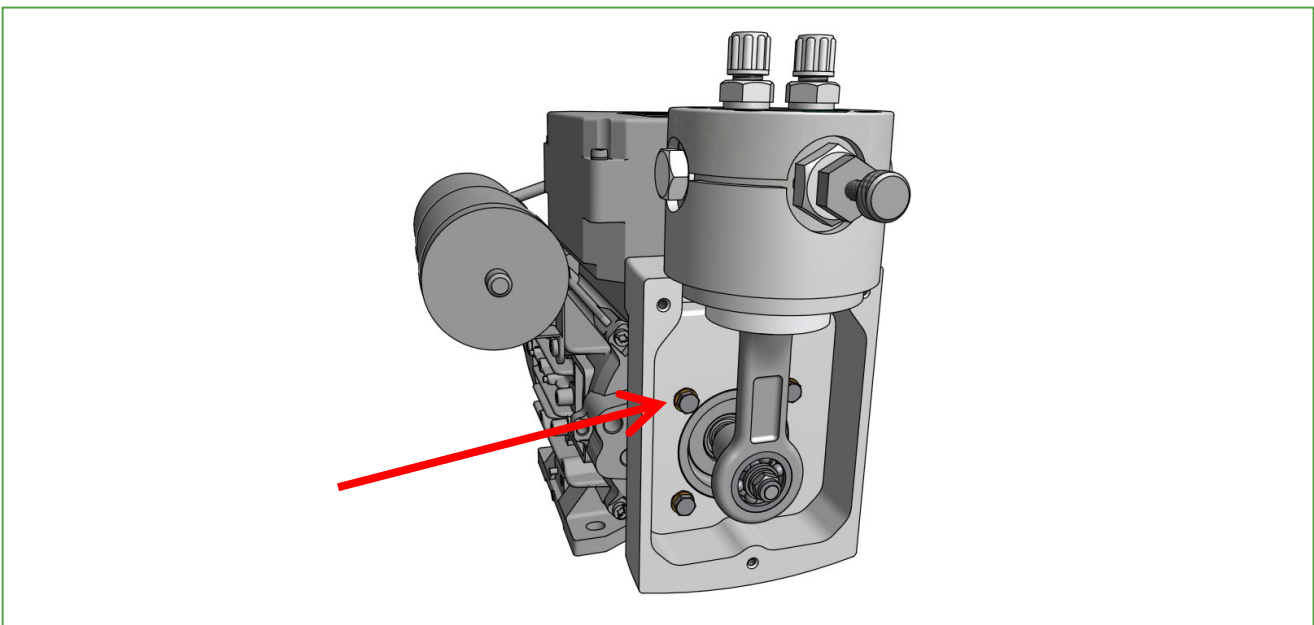

Figure 6 Rotating the pump head
- Unscrew and remove the four flange screws with the lock washers shown in Figure 6.